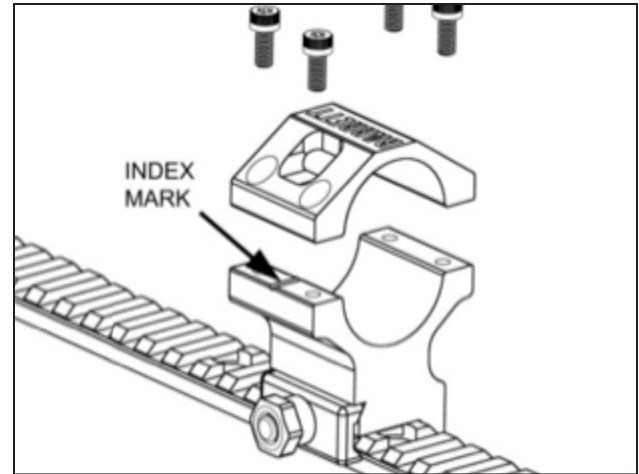

Figure 5.
4. Use the front Scope Ring to hold the riflescope in the rings. Remove the front scope ring cap using the T-25 Torx wrench. Place the riflescope in lower rings, and start the threads of the cap screws (4) into the front lower ring. Tighten the indexed side only. The scope should still be able to move in the scope rings, loosen slightly if required. Figure 5.